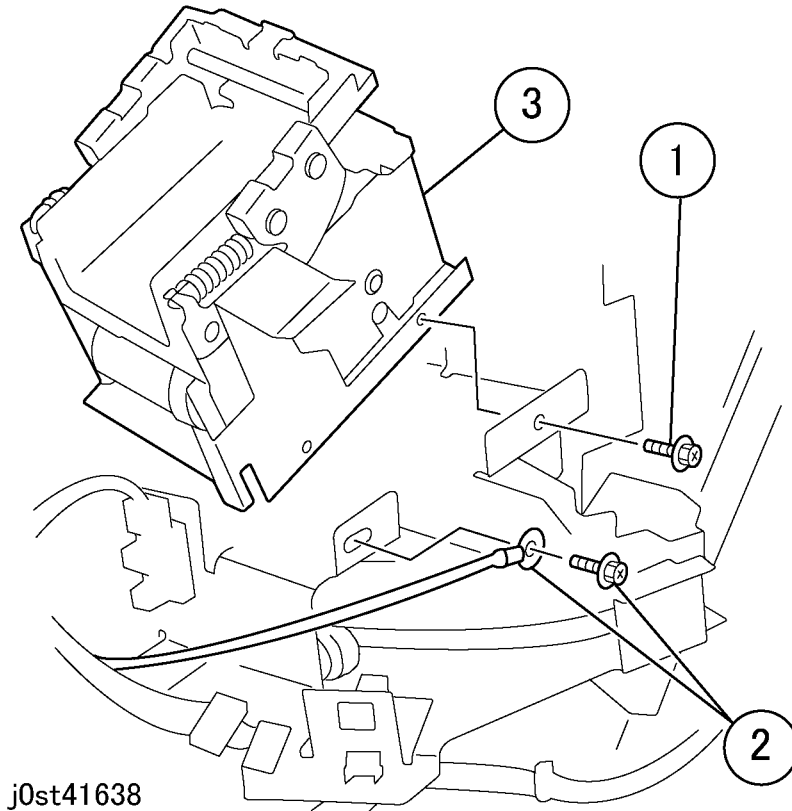

Figure 2 Removing the Staple Assembly (j0st41638)
3. Remove the Staple Assembly. (Figure 2)